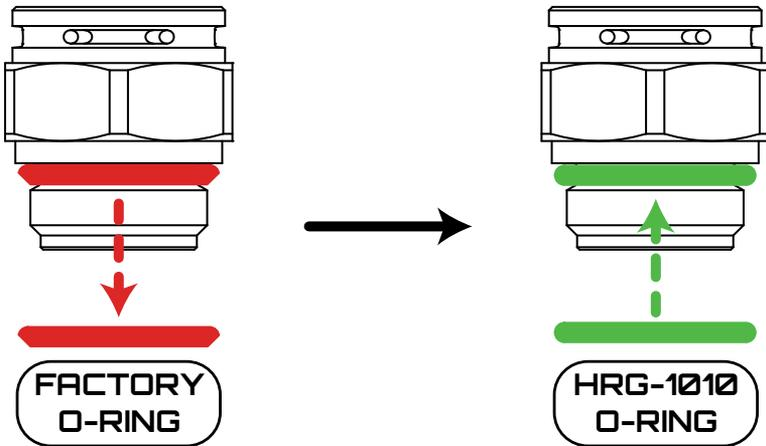

Figure 3 - Installing the HRG-1010 Replacement O-Ring on Factory Fitting
12. Remove the used O-ring on the factory oil cooler fitting and replace it with the new HRG-1010 o-ring from the hardware kit, as shown in Figure 3.